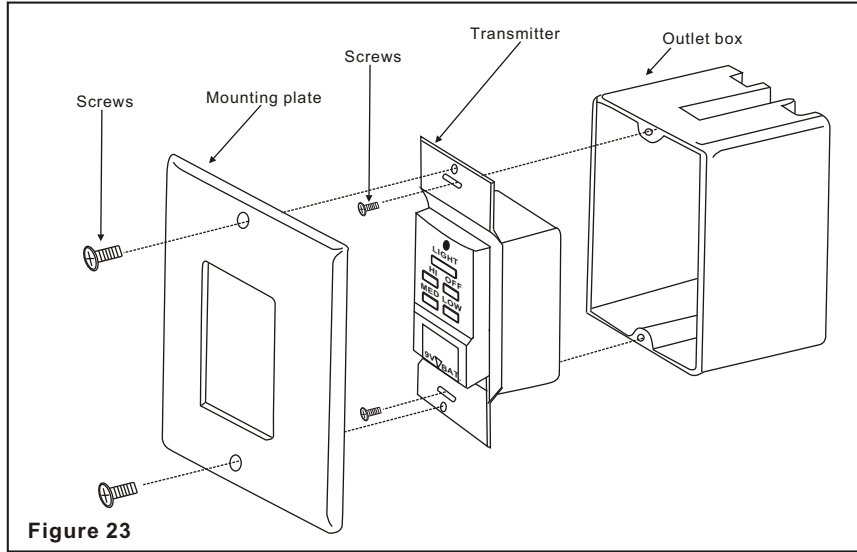

Figure 23
2. Attach the transmitter to the outlet (wall) box and secure with 2 outlet box screws (Figure 23).
3. Attach the mounting plate over the transmitter and secure with the two screws provided (Figure 23).